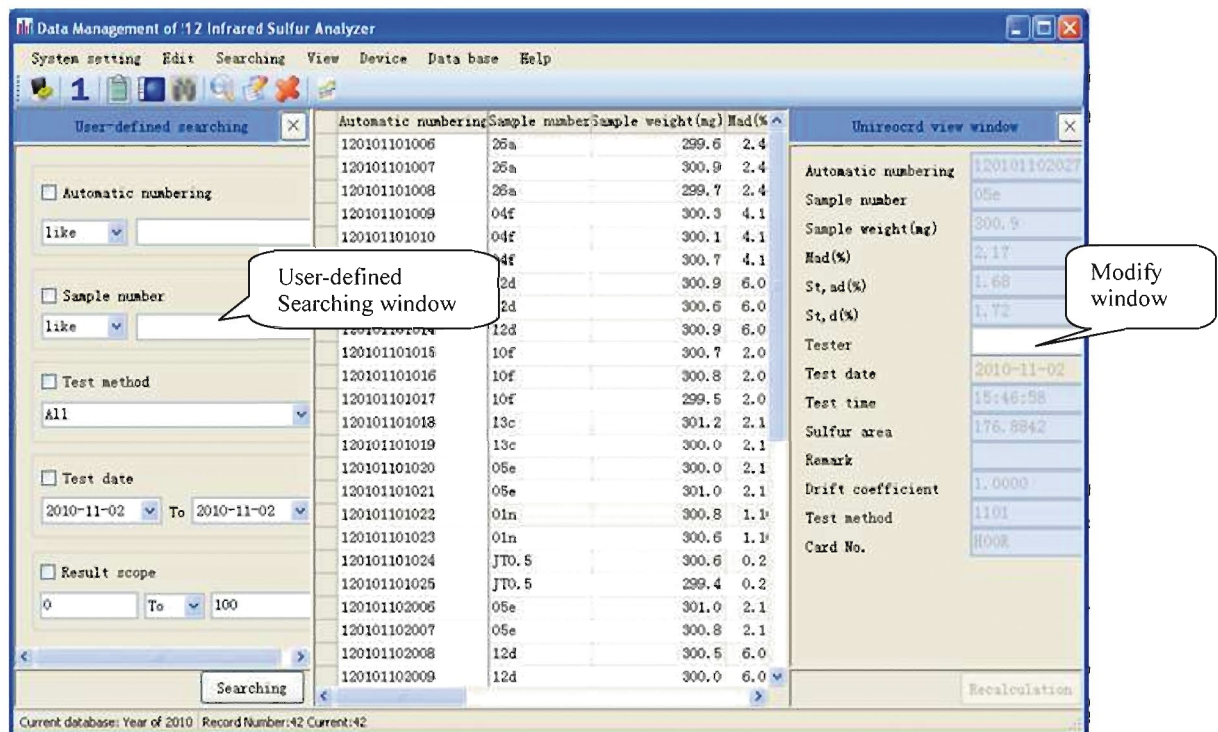

Fig. 5-3-2
5. **User-defined searching:** click this item, popup the displayed window as Fig. 5-3-2.